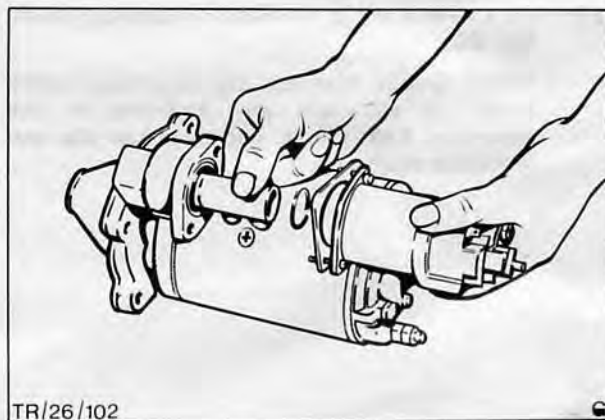

Fig. 58. Withdrawing solenoid from drive end cover
3. Remove solenoid securing nuts and spring washers. Withdraw solenoid complete with gasket from drive end cover, Fig. 58. The plunger can be removed from drive engagement lever, by lifting it at front end, to disengage it from fork at top of drive engagement lever.